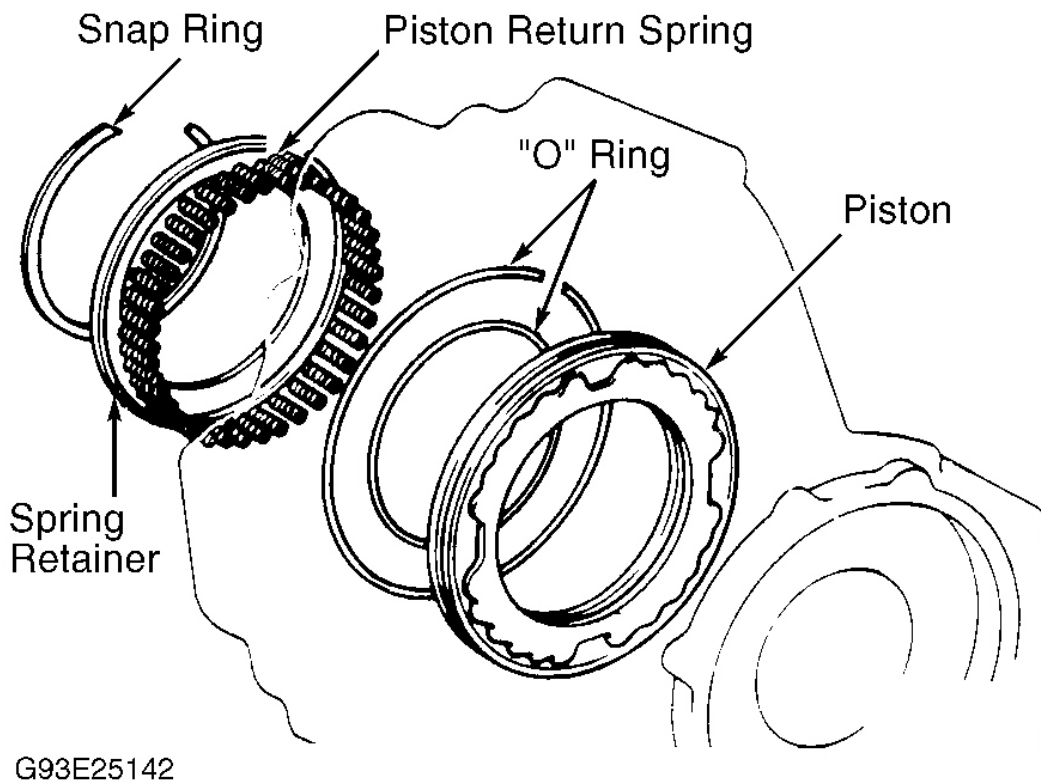

Fig. 28: Exploded View Of 1st & Reverse Brake Piston
3. Push snap ring in place with fingers. Ensure snap ring is fully seated and centered on 3 lugs of spring retainer. Ensure end gap of ring is not aligned with spring retainer claw. Remove compressor tool. See **Fig. 28**.